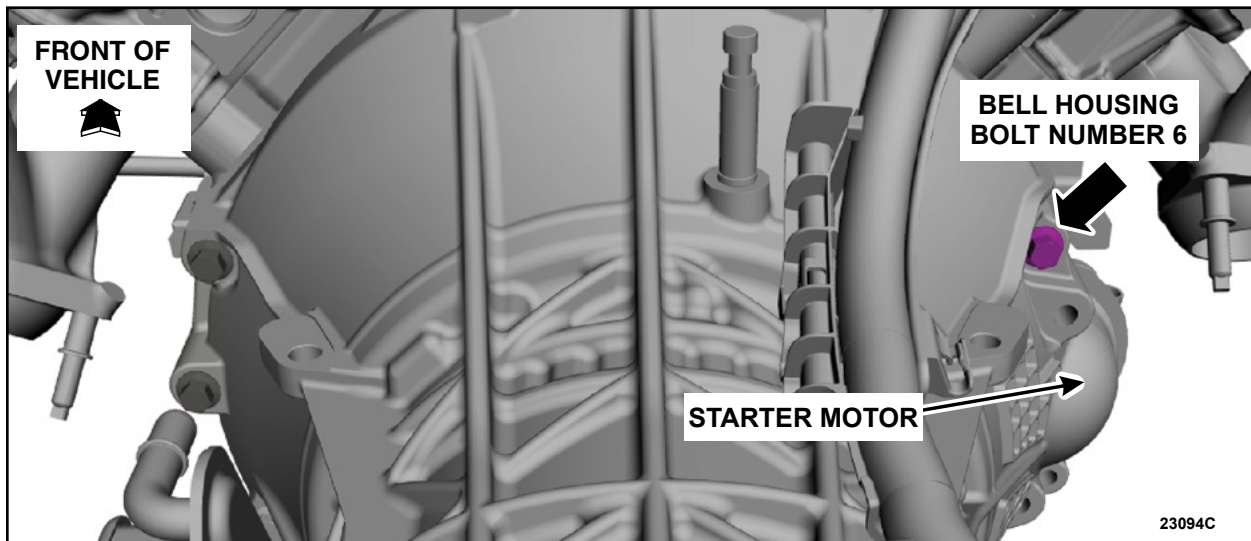

FIGURE 2
3. Inspect for the presence of the number 6 bell housing bolt. See Figures 2 and 3.
See Figures 2 and 3.